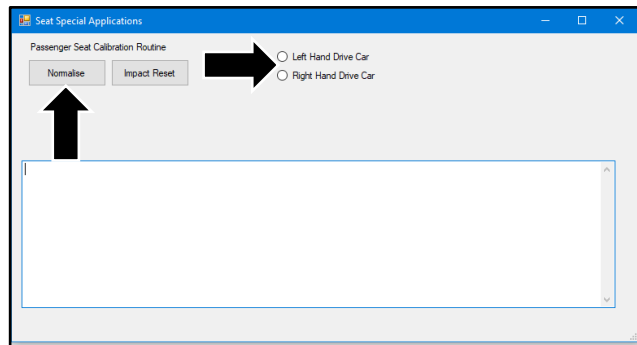

Figure 6
- Select the applicable hand of drive, then click “Normalise” (refer to Figure 6).